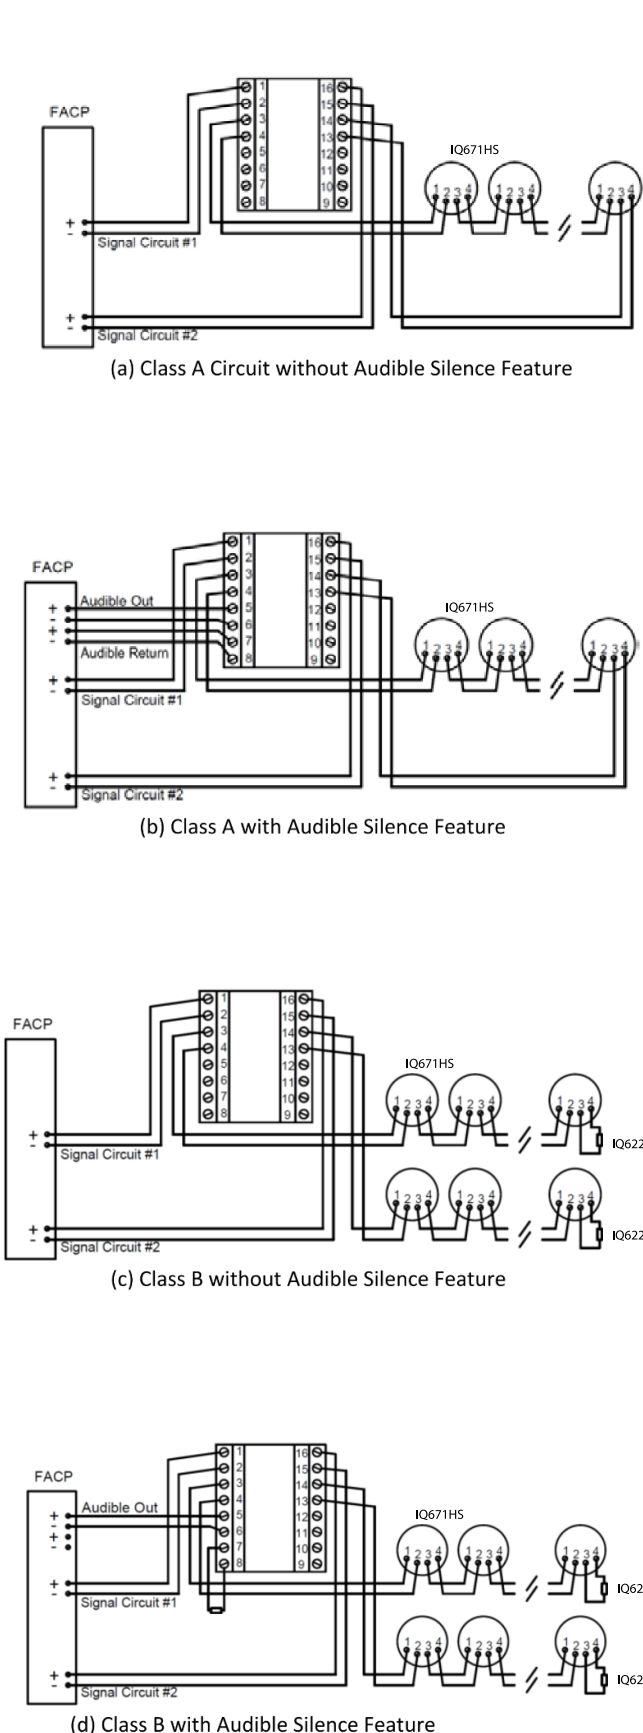
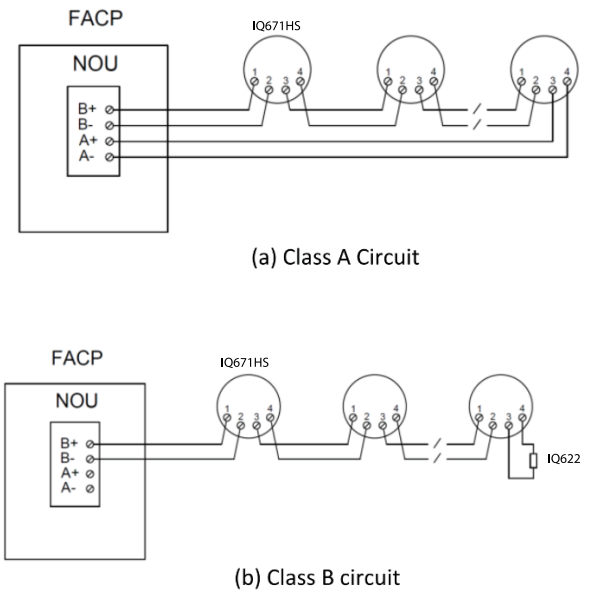

Figure 4 Wiring Diagram
Figure 5 Wiring Diagram with IQ600
3. Connect the wires. See Figure 4 and Figure 5.